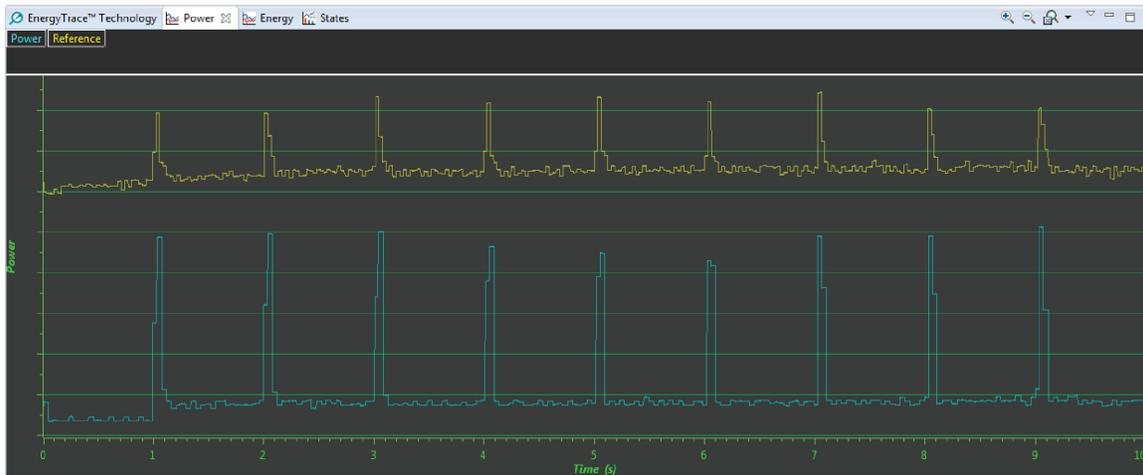
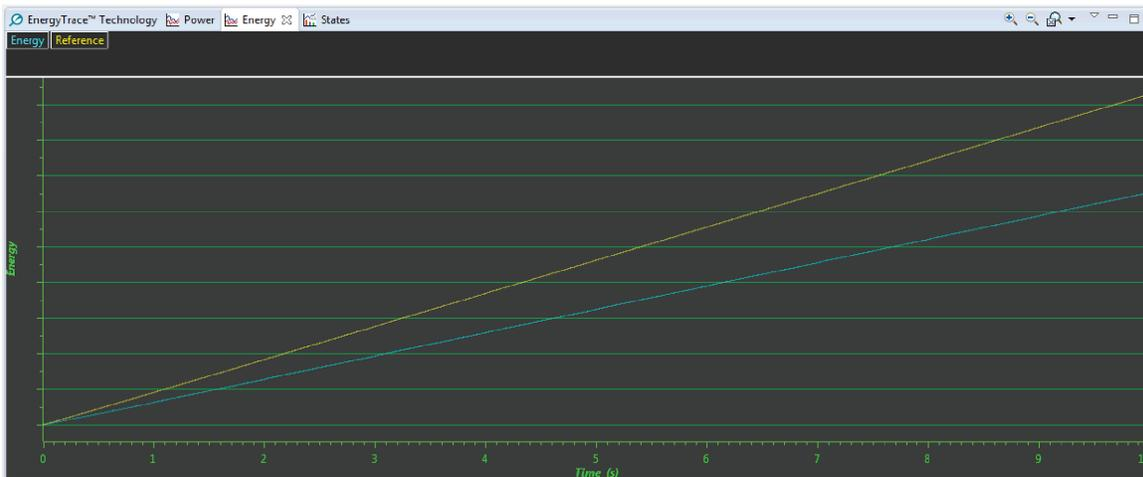

Figure 17. Efficient.c Power (Blue) Referenced With Inefficient.c Power (yellow)
Figure 18. “Efficient.c” Energy (blue) Referenced With “Inefficient.c” Energy (yellow)
10. Notice in the *Power* window that the current profile power consumption (shown in blue) is consistently less than the reference (shown in yellow) (see Figure 17). Also note in the *Energy* window that the energy consumption now increases at a slower rate than the reference profile (see Figure 18). This is a good sign, showing that the code adjustments have made a positive impact on the energy efficiency of the system. The *States* window does not show a comparison of the current states to a reference profile; only the states corresponding to the current profile are shown.